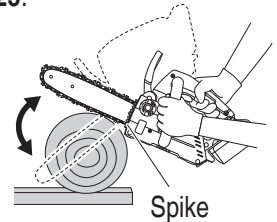

Fig. 25
- (3) When sawing a thick piece of wood, press the spike on the front section of the unit against the wood and cut it with a lever action while using the spike as a fulcrum as shown in **Fig. 25**.